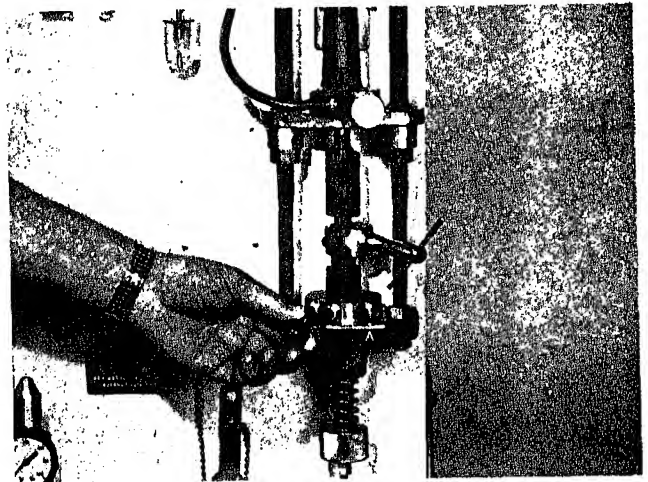

Fig. 6-1-35. Shifting retraction lever
7. Shift retraction lever from "A" to "B" position. See Fig. 6-1-35. This removes load from plunger and allows it to retract from cup seat by approximately .048 inch. Measure plunger retracts. The adherence of mating surfaces between plunger and cup sometimes holds plunger in cup seat.